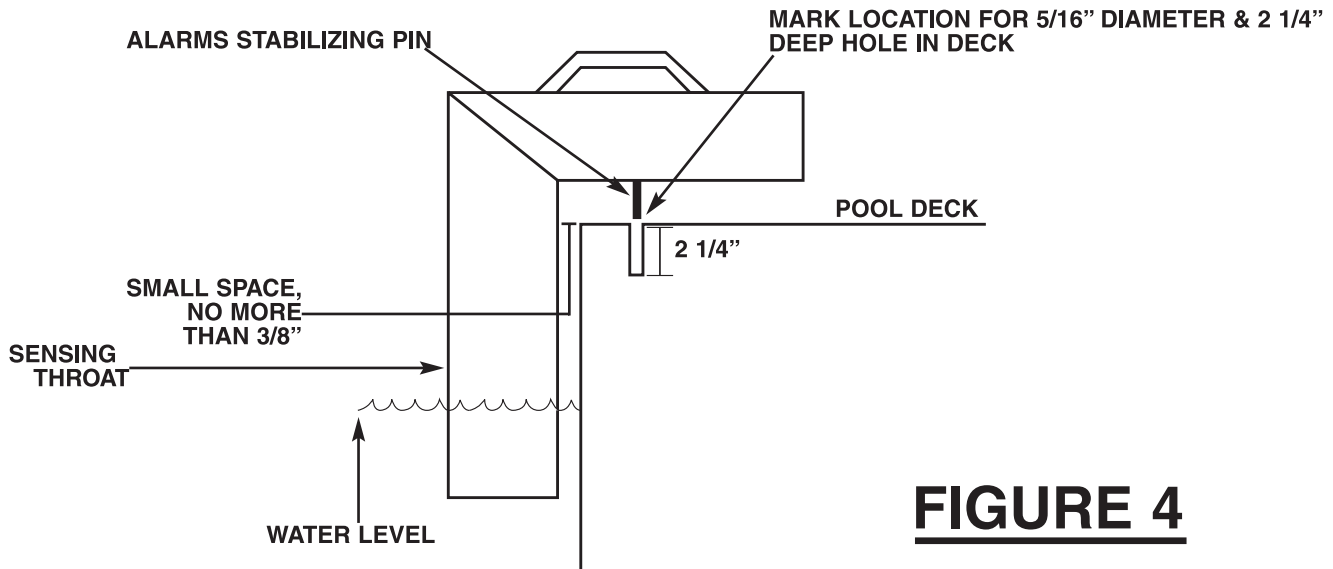

FIGURE 4
1. Position your pool alarm so that the sensing throat is in the water and the **ASP** is touching the deck, (leave a small space no more than 3/8" between the sensing throat and the top edge of your deck or coping), (**See Figure 4**).